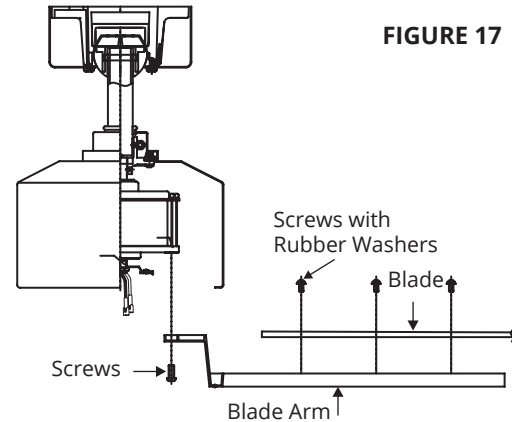

FIGURE 17
1. Attach the blade to the blade arm using the screws with rubber washers as shown in Figure 17.
2. Fasten blade assembly to motor using the screws supplied. (Fig. 17)